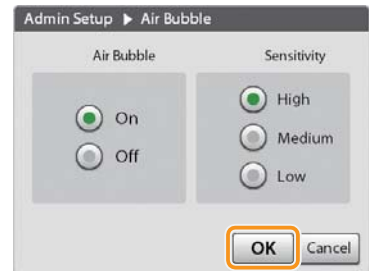

Figure 3-71
3. Tap [OK] to complete the setting. (Figure 3-71)